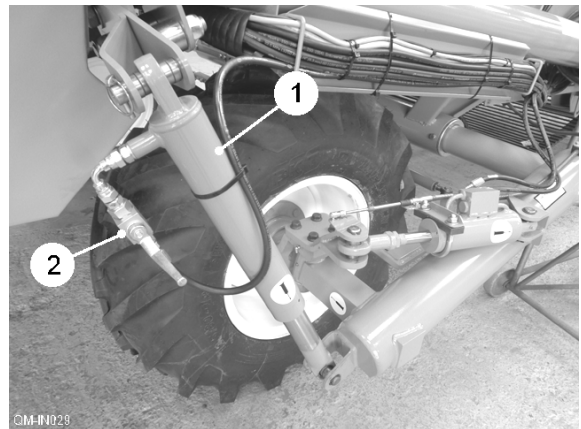

Fig. 22
The RH axle beam is connected to the chassis by the hydraulic ram (item 1, fig. 22). Extending the ram will raise the chassis on that side while closing the ram will lower the chassis. Levelling is controlled from the control box. Ensure the transport lock valve(s) (item 2, fig. 22) are in the open position for work. Use the levelling when working on slopes. This will ensure an even spread of crop across the full width of the machine, thus making maximum use of the separation area. An optional electronic level sensor can be fitted to give automatic levelling control.